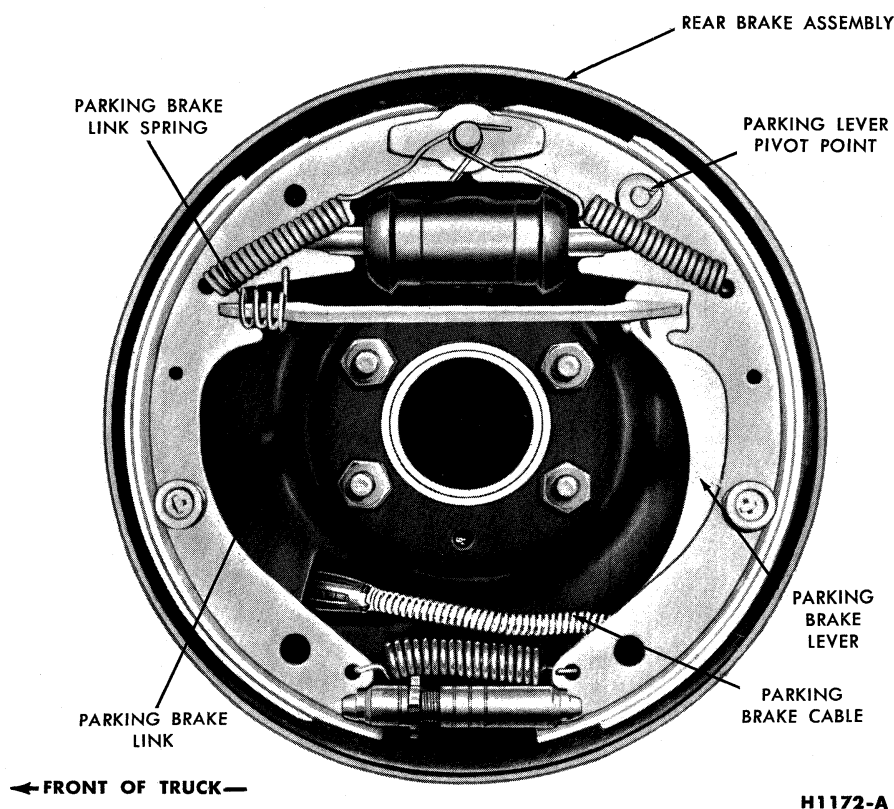

FIG. 1—Parking Brake Assembly
5. Adjust the brake pedal free travel to $\frac{3}{16}$ – $\frac{1}{2}$ inch (Fig. 1, Part 2-1). Torque the eccentric bolt nut to specifications.
actuated parking brake assembly is contained in each rear wheel brake assembly (Fig. 1).